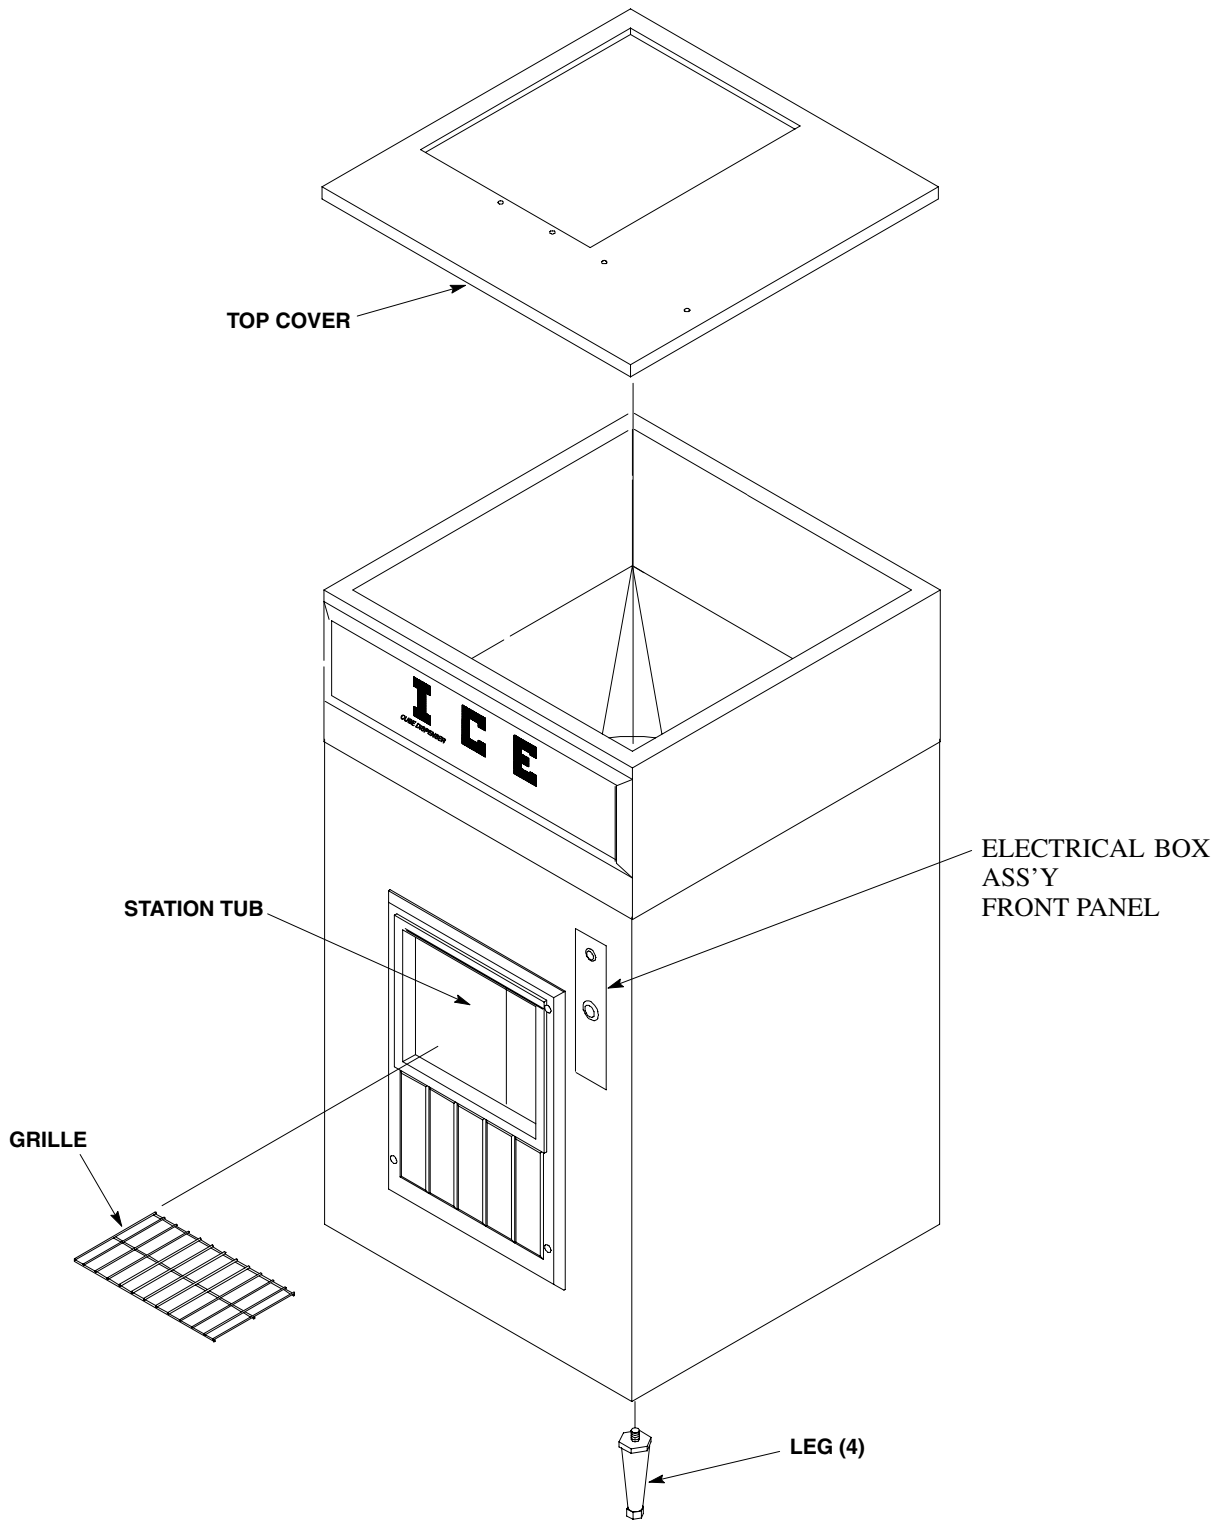

FIGURE 2. DISPENSER COMPONENTS (PUSH-BUTTON MODEL SHOWN)
3. Install the four legs in four corners of the Ice Dispenser base as shown in Figure 2.
All adjustments require access to the inside of the electrical box assembly (see Figure 2). To gain entry to the inside of the electrical box assembly, you must have the key to open the electrical box assembly front panel. Unlock, then pull out and down on the electrical box assembly front panel to expose the MANUAL/PORION CONTROL SWITCH the ICE PORTION SIZE ADJUSTMENT KNOB, and the time delay between dispensed ice portions TIME DELAY ADJUSTMENT SCREW inside the electrical box assembly. Perform the following instructions to make pre-operation adjustments.
DAILY CLEANING (see Figure 2)